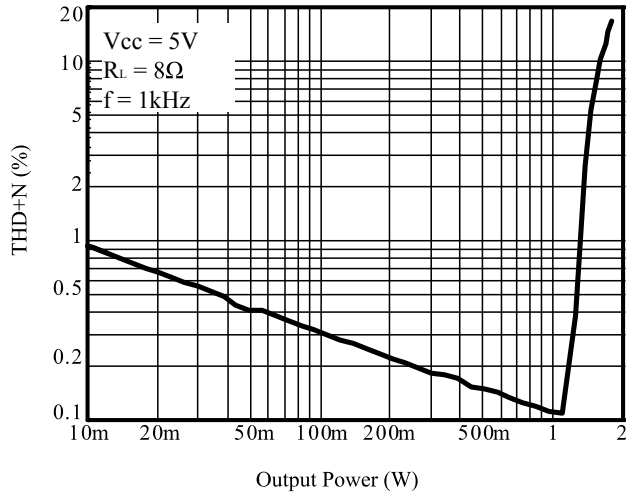

Figure 2 THD+N vs. Output Power
As shown in Figure 2, the SN4066D consists of two pairs of operational amplifiers, forming a two-channel (channel A and channel B) stereo amplifier. External feedback resistors R_2 , R_4 and input resistors R_1 and R_3 set the closed-loop gain of Amp A (-out) and Amp B (-out) whereas two internal $20\text{k}\Omega$ resistors set Amp A's (+out) and Amp B's (+out) gain at 1. The SN4066D drives a load, such speaker, connected between the two amplifier outputs, -OUTA and +OUTA.
Figure 2 shows that Amp A's (-out) output serves as Amp A's (+out) input. This results in both amplifiers producing signals identical in magnitude, but 180° out of phase. Taking advantage of this phase difference, a load is placed between -OUTA and +OUTA and driven differentially (commonly referred to as "bridge mode"). This results in a differential gain of
Amplifying the lowest audio frequencies requires high value input coupling capacitors (C_1 and C_2) in Figure 2. A high value capacitor can be expensive and may compromise space efficiency in portable designs. In many cases, however, the speakers used in portable systems, whether internal or external, have little ability to reproduce signals below 150 Hz. Applications using speakers with this limited frequency response reap little improvement by using large input capacitor.
As shown in Figure 2, the input resistors (R_1 and R_3) and the input capacitors (C_1 and C_2) produce a -3dB high pass filter cutoff frequency that is found using Equation (7).
As an example when using a speaker with a low frequency limit of 150Hz, C_1 , using Equation (7) is 0.053 μ F. The 0.33 μ F C_1 shown in Figure 2 allows the SN4066D to drive high efficiency, full range speaker whose response extends below 30Hz.